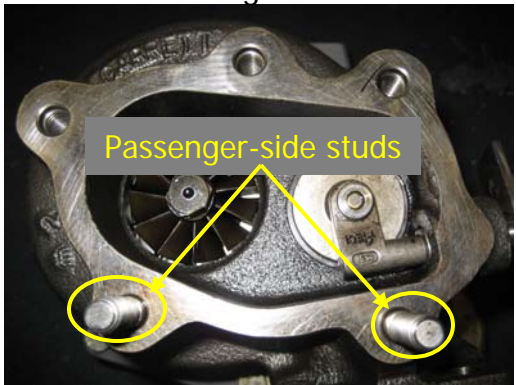

Fig.9a
- 5) On the passenger-side turbo install two (2) M8 studs in the turbine housing outlet flange as shown (Fig. 9a).